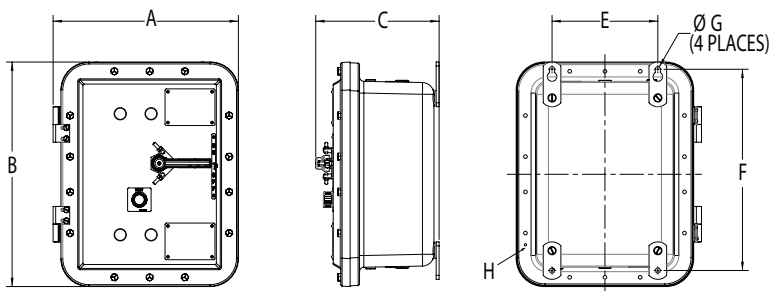

Figure 1
- Select a mounting location that will provide suitable strength and rigidity for supporting all contained wiring, components and control devices. Figure 1 and Table 1 show the mounting dimensions.